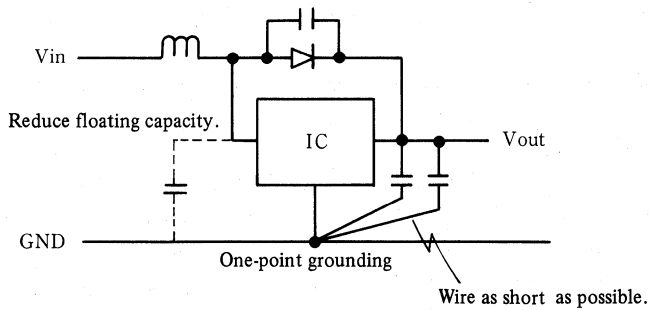

Figure 3
- (1) Ripples due to coil switching.
- (2) Ripples due to fluctuation of the voltage accumulated in output capacitor C.
- (3) Ripples due to the characteristics of output capacitor C.
- (4) Ripples due to wiring.
The ripples of (1) occur at the moment the control transistor is turned off. The frequency spectrum spreads very widely (over several MHz) and the amplitude is several tens of mV. The main cause is the floating capacity on the Lx terminal and the turn-on time of the diode. Place the Lx terminal, coil and diode as close together as possible, and use a diode with short turn-on time. The ripples can also be reduced by inserting a capacitor of several tens of pF between the anode and cathode (see Figure 3).
Z_c causes ripples in combination with the charged current. Against this type of ripple, insert a capacitor of about $0.1\mu F$ in parallel with output capacitor C (see Figure 3).
Ripples of (4) are caused mainly by the routing of the power supply grounding. The grounding must be one-point and routed as short as possible to avoid any excessive impedance (especially R and L elements) (see Figure 3).